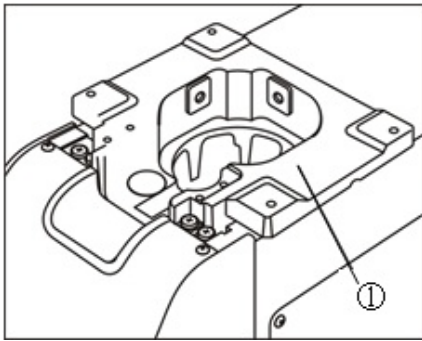
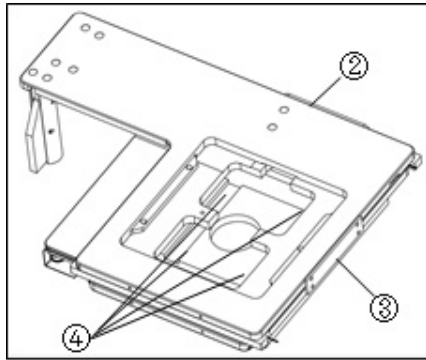

Fig. 1
Fig. 2
1. Remove the transport protection plate ① behind the stage with a 4mm Allen wrench (Fig. 2). It is recommended that the screws remain in the corresponding holes of the stage for next use.
2. Place the stage gently on the bracket ① of the main frame (Fig. 1). Make sure the adjustment knob is on the right side. Screw the screw ④ without tightening.(Fig. 2)
3. Remove the side protection plate ③ and front protection plate ②. Move the upper plate of the stage to the last position of the stroke to ensure that the stage and the main frame will not interfere. Then tighten the screws ④ to ensure the stage is firm.
- ★ **Be sure to install the transport protection plates ② ③ and pack the stage carefully when transporting. Please do not install the stage on the main frame for transportation or arbitrary packaging, otherwise the stage is easy to damage.**